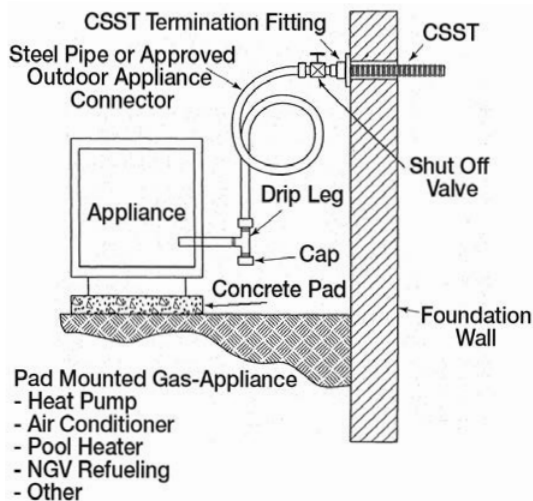

Fig. 4-68
- a) Pad Mounted Equipment (Fig. 4-68) – Moveable gas appliances on concrete pads or blocks, such as heat pumps, air conditioners, pool heaters and NGV refueling systems, shall be connected to the Gastite®/FlashShield® CSST system at a termination fitting using either rigid pipe or an approved outdoor appliance connector.